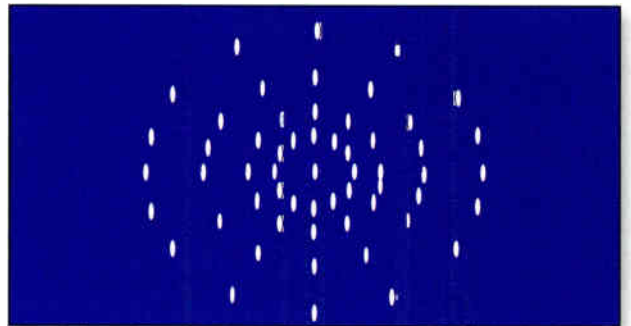

Figure 6. Exaggerated case of lens astigmatism
- *Astigmatism*. A lens that has been corrected for spherical distortion sometimes will still not properly focus an off-axis point in the scene. Instead, the point adopts an elliptical shape or becomes a line in the lens-created image. Adjusting the lens focus, the image can change between two ellipses at right angles to each other — failing to achieve a sharp point focus. (See Figure 6.)